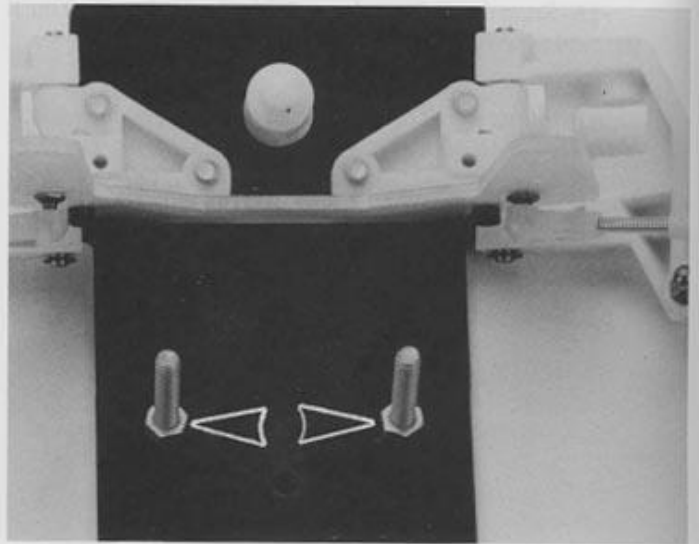

Fig. 20
-20- Locate the 2 flat head long Phillips screws #6281 in package #62. Install them as shown using 2 plain 8-32 nuts as shown in Fig. 20. Use a drop of Blue Loctite to secure nuts. Wipe off all excess before proceeding to the next step.